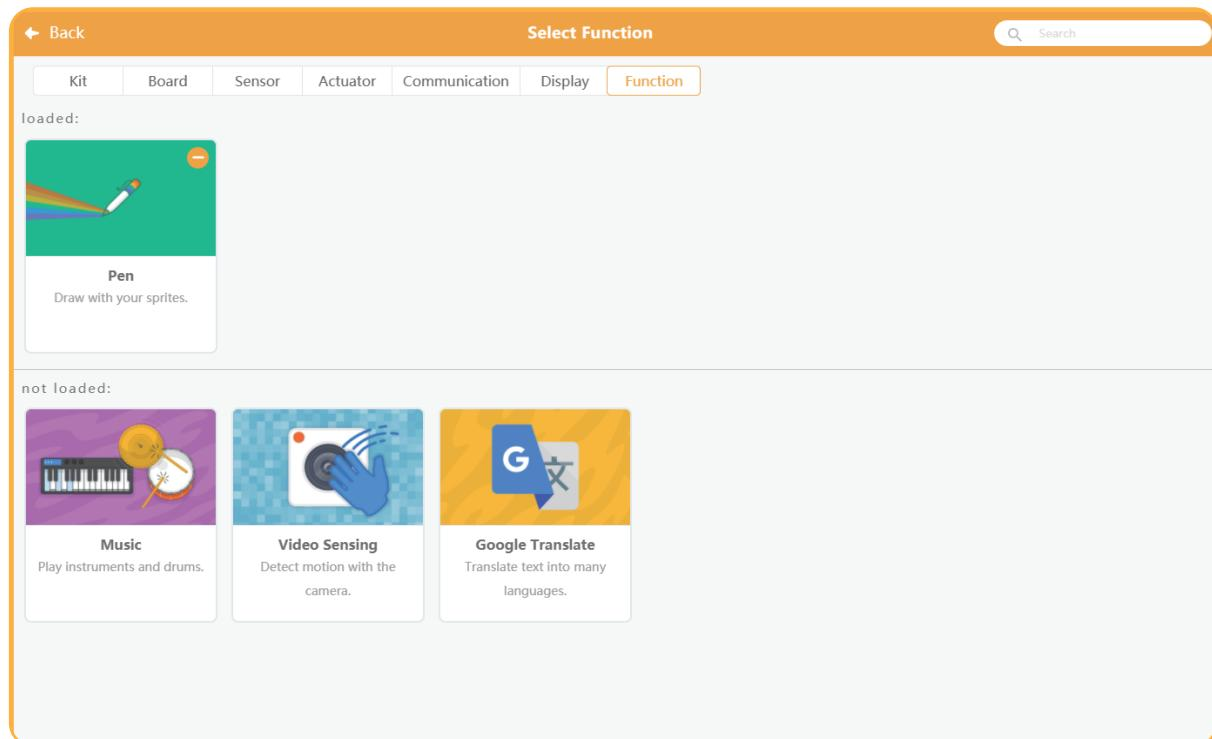

Figure 8-1
1.Click “Expansions” -> “Functions” -> “Pen” to load the pen module. As figure 8-1 shows.